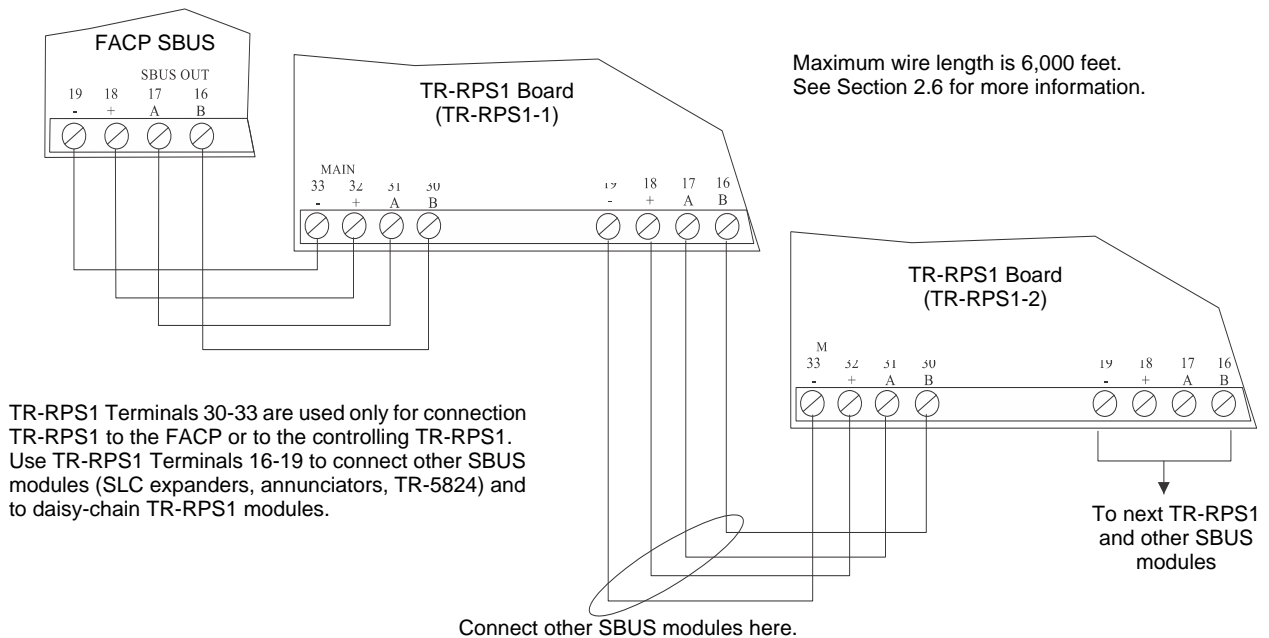

Figure 3.5 Class B TR-RPS1 Connection to FACP
1. Connect the TR-RPS1 to the appropriate SBUS. The TR-RPS1 can be connected directly to the FACP or it can be daisy-chained to another TR-RPS1. Refer to Figures 3.5 and 3.6.